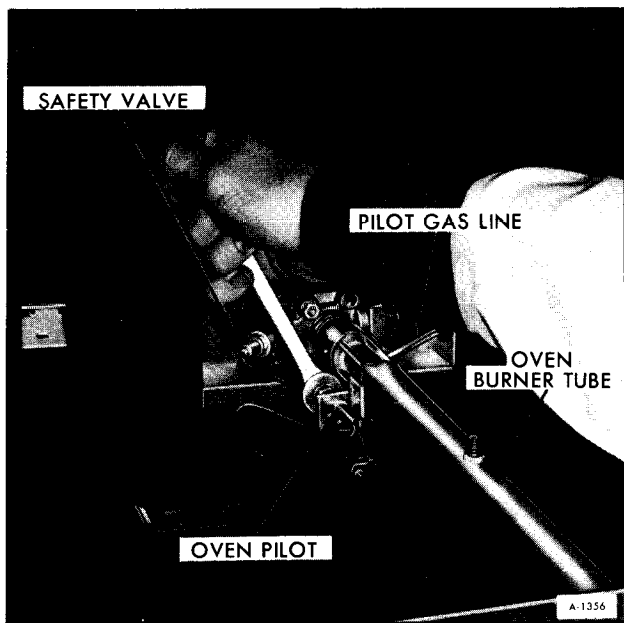

Figure 16-Disconnecting Gas Line at Oven Pilot
5. Disconnect the two gas lines, one at the oven pilot and one at the safety valve (See figures 16 and 17).